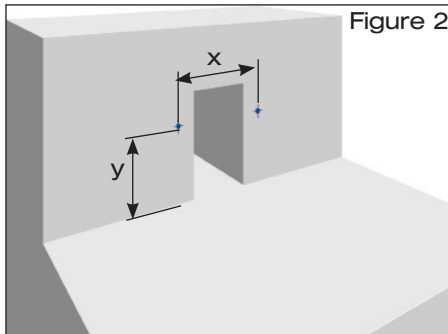

Figure 2
- 1.2 Make 10 mm diameter holes for the sliding flange with the connecting sleeve for connecting the vapour barrier according to the details specified in Table 2 and Table 3 (Fig. 2).